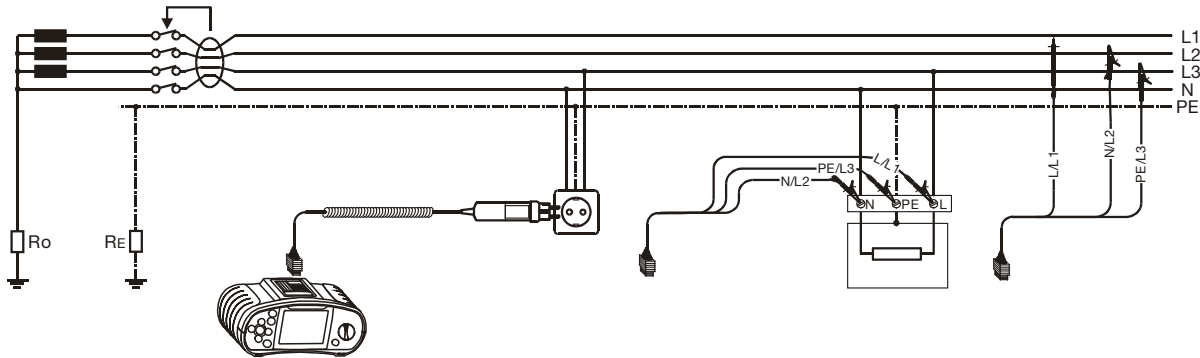

Fig. 5.40: Connection diagram
- Step 2** Follow the connection diagram shown in figure 5.40 to perform voltage and frequency measurement.